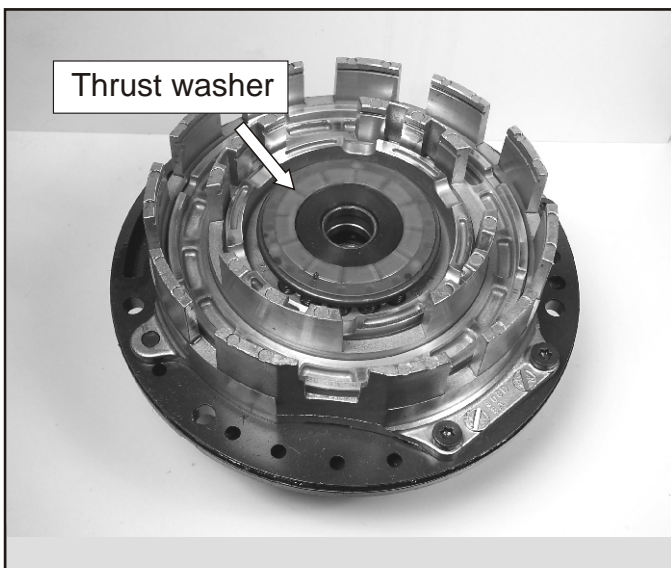

Figure 119
67. Assemble the B2 second coast brake hub thrust washer as shown in Figure 119.